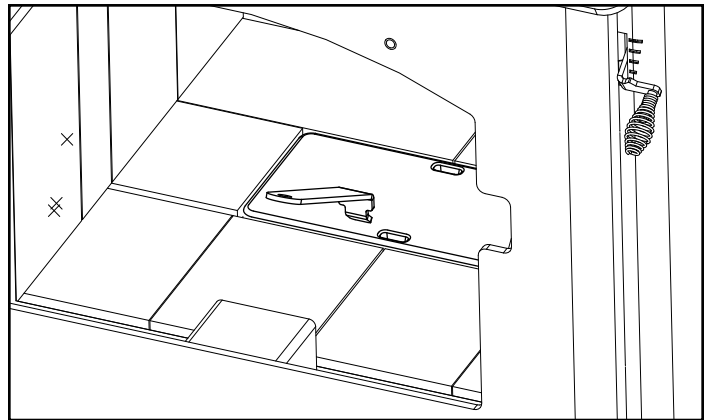

Figure 17.2
2. Remove cast iron cap from inside the firebox using tools supplied. Clean ash through the ash removal system channel into the drawer below (**Figure 17.2**). Make sure all ash is removed from the top of ARS door. Lift up the grate and inspect the top of the door to ensure all ash has been removed. You can rapidly move the ARS latch handle up and down to help remove any ash from the door. Use a small brush to clean off the top of the door if any ash remains. **Be sure to replace the cap before operating the stove.** It is recommended to leave 1/4 to 1/2 inch (6-13mm) of ash on the firebox floor to allow air to flow freely underneath wood.